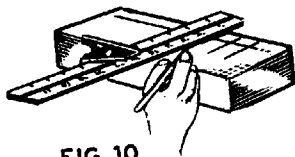

FIG. 10
8. Lines are drawn at right angles by using the combination square or set square. The blade is held at right angles to the work and the lines are scribed along the edge of the blade (Fig. 10).